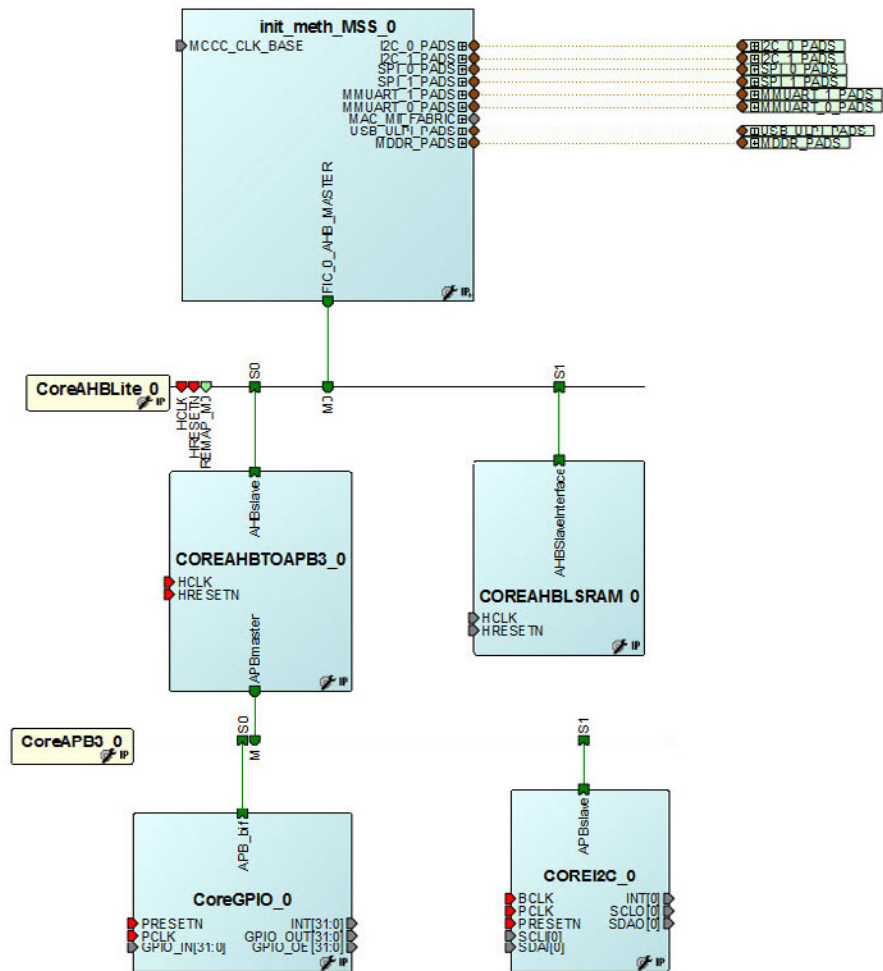

Figure 5-6 • FIC Master/AHBLite Sub-System
- Connect the CoreAHBLite mirrored-master Bus Interface (BIF) port M1 to the MSS master BIF port - FIC_0/1_AHB_MASTER - as shown in Figure 5-6.